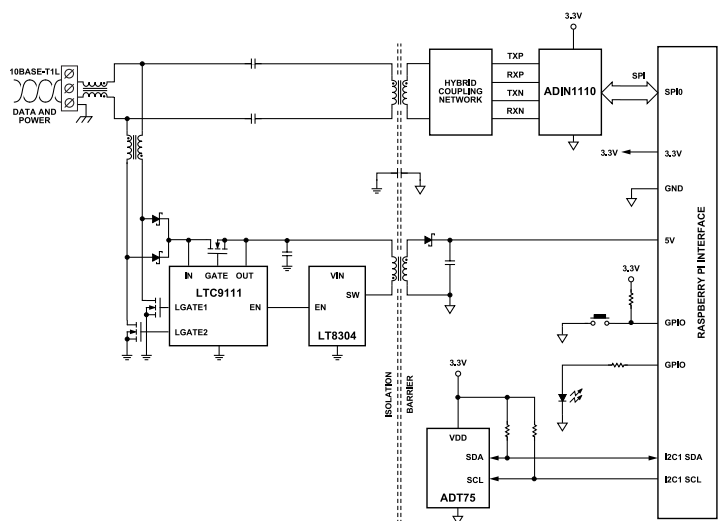

Figure 1. CN0575 Simplified Block Diagram
The circuit shown in Figure 1 is a 10BASE-T1L MAC/PHY interface with SPoE for development of field devices and applications on a Raspberry Pi platform board. The SPoE powered device (PD) and isolated flyback regulator provide 5 V power to the platform board and attached application circuitry. SPoE Class 12 (8.4 W, 24 V nominal) and Class 13 (7.7 W, 55 V nominal) are supported.